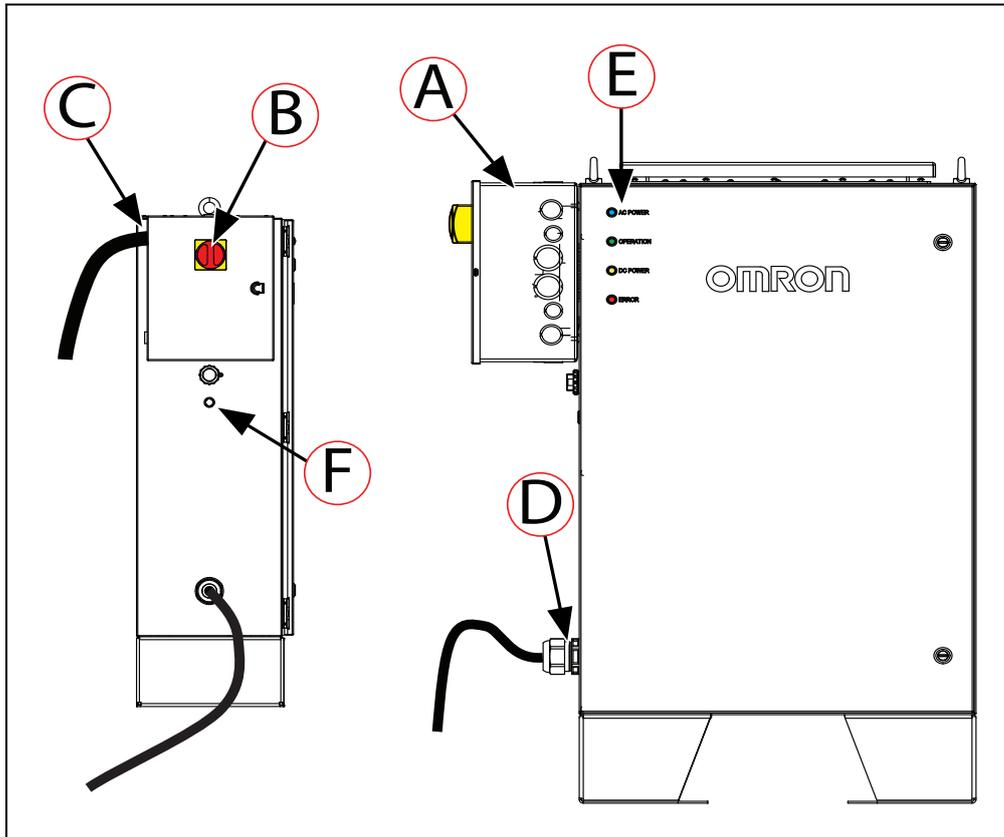
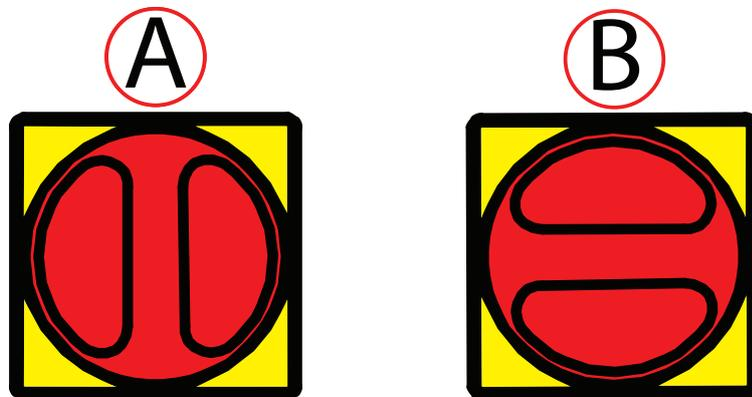

Figure 7-10. (A) Electrician Access Box, (B) Main Disconnect Switch, (C) Input Power Plug, (D) Output Power Plug, (E) LED Indicators, and (F) Push Button
Figure 7-11. Main Disconnect Switch on the Electrician Access Box, (A) ON Position, and (B) OFF Position
- The electrician access box has a main disconnect switch, as displayed in Figure 7-10. When the user turns the main disconnect switch ON, the access door locks automatically, and prevents access to the interior of the electrician access box. This is to block access to the hazardous electrical circuits in the electrician access box.
1. Remove power to the power supply box through the main disconnect switch. Turn the main disconnect switch to off position, see: Figure 7-11.
The power inlet is located at the rear of the electrician access box ((C) in Figure 7-10. ). The output power plug is located below the electrician access box, on the left side of the station, as viewed from the front ((D) in Figure 7-11.